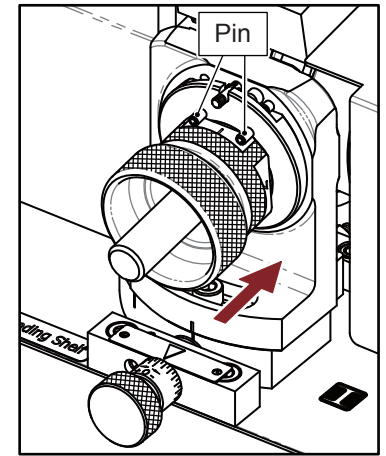

Fig. 5-24
1) 4 Flute Secondary Relief Grinding (I) (Fig. 5-24)